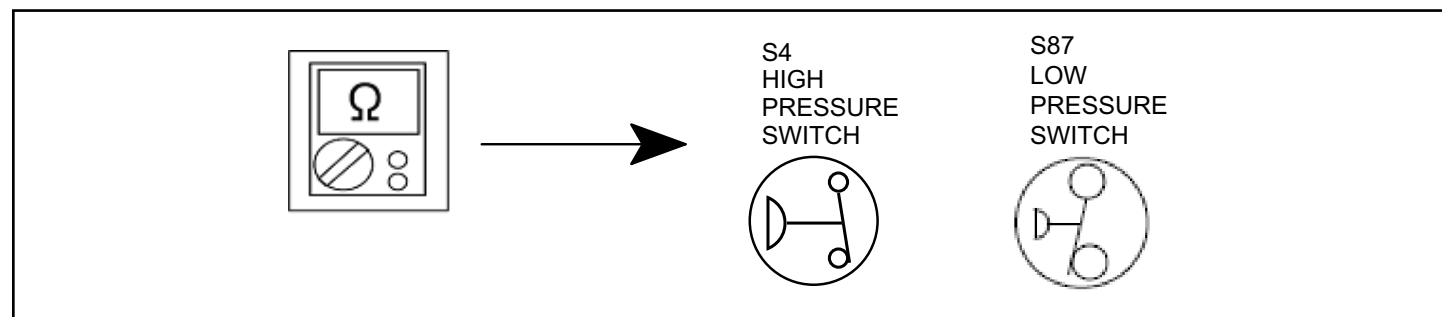

Figure 25. Verifying High and Low Pressure Switch Operation
- Low Suction Pressure Switch (LPS) – See Figure 25 for low suction pressure protection sequence of operation.
- High Pressure Switch (HPS) – See Figure 25 for high pressure switch sequence of operation.